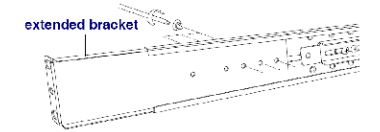

Figure 13 Inserting and tightening the medium/long bracket
4. Tighten at least 2~3 screws along the length you need. **Note!** For medium bracket use the round screws, and for the long bracket use the flat screws. See Figure 13.